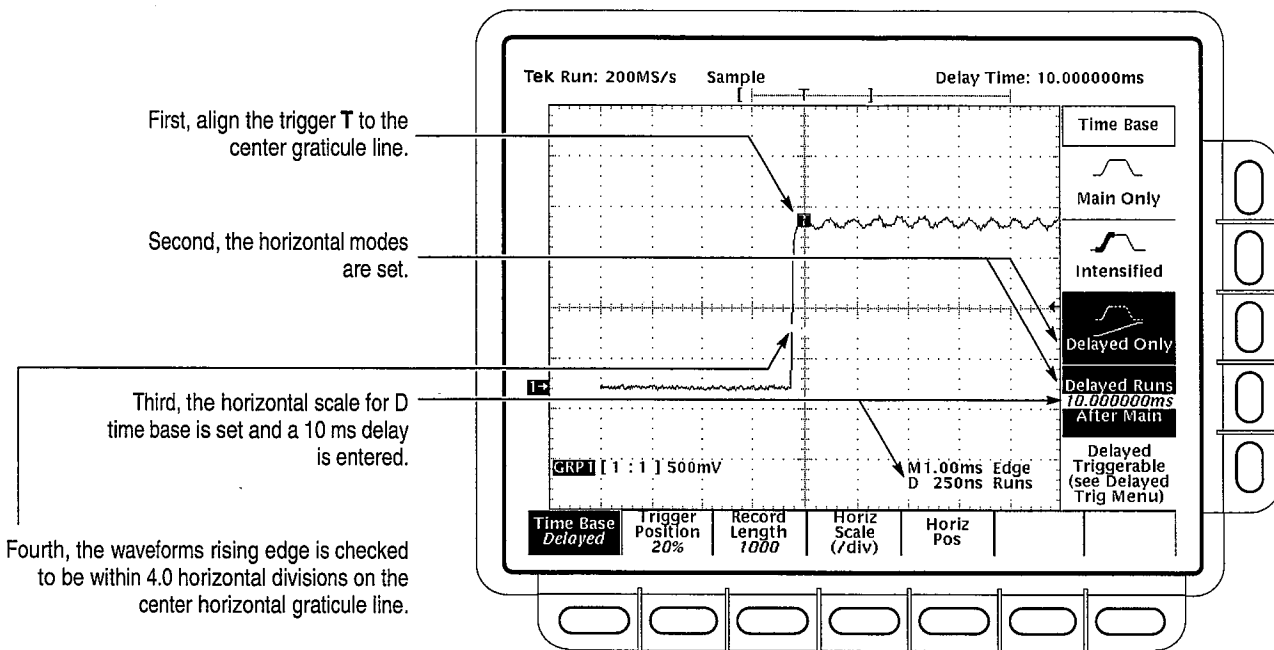

Figure 1-14: Measurement of Accuracy — Long-Term and Delay Time
- f. Check that the rising edge of the marker crosses the center horizontal graticule line at a point within  $\pm 4.0$  divisions of center graticule (see Figure 1-14).